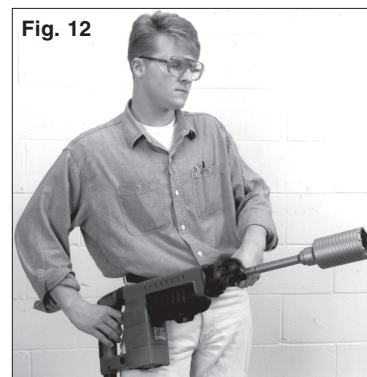

Fig. 12
4. To change the core bit, hold the tool upwards, pointing it away from your body as shown, and run it briefly in forward to loosen the core bit from the adapter (Fig. 12).